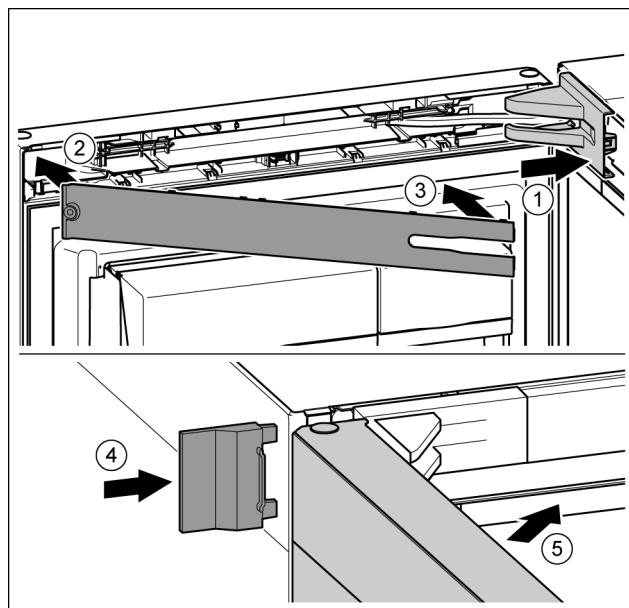

Fig. 23
- Position the bearing bracket and engage. If necessary push apart carefully. Fig. 23 (1)
- Position the panel. Fig. 23 (2)
- Swing in the panel and click into place. Fig. 23 (3)
- Slide on the external cover. Fig. 23 (4)
- Close the upper door. Fig. 23 (5)